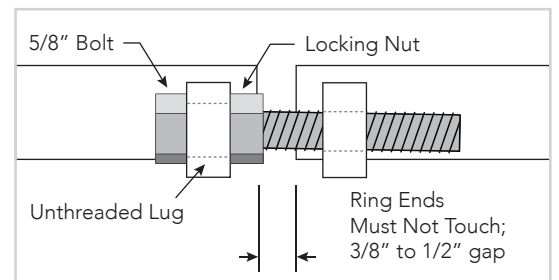

Figure 5
- TIGHTEN THE BOLT:** Use a wrench while using downward pressure on the cover to further seat the ring. Continue torquing and using horizontal force as needed until gap between ring ends is 3/8" to 1/2." (see figure 5).
- LOCK RING:** Tighten the nut against the unthreaded lug (see figure 5).